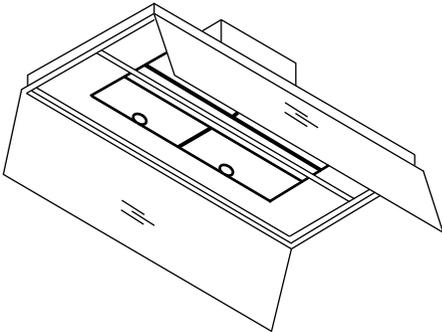

Fig 7
1. Pull down both parts of the cover to hang down (Fig 7).